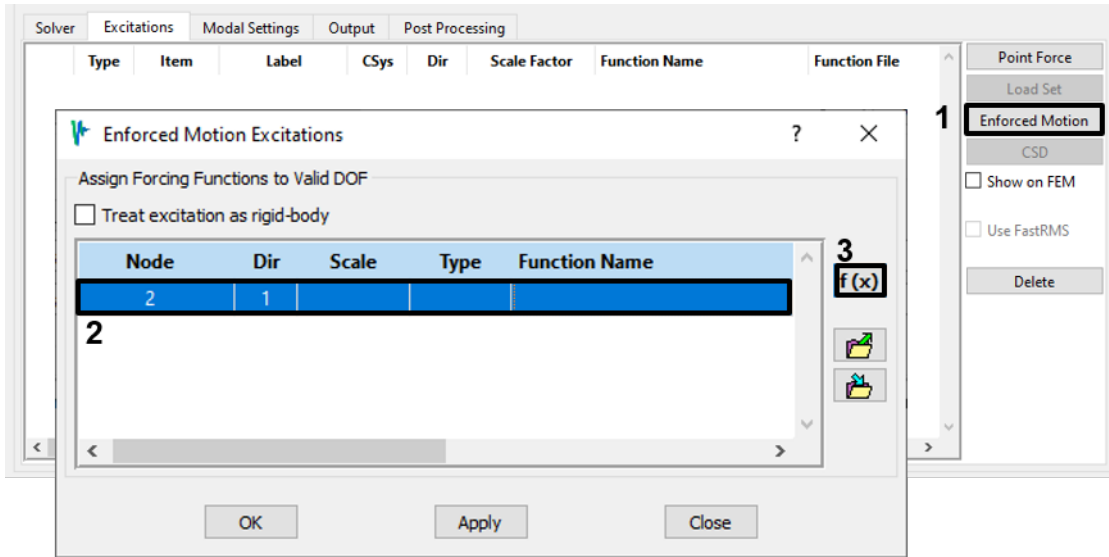

Figure 4-25. Apply a forcing function to the available enforced motion DOF.
- On the *Excitations* tab, select **Enforced Motion**, select the one available DOF, and then click the **f(x)** button (Figure 4-25).